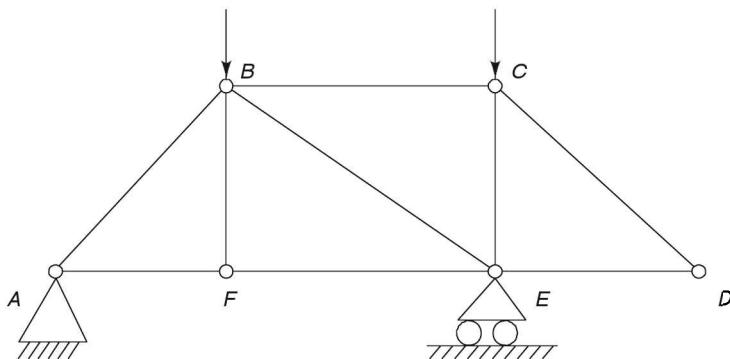

FIGURE 11.4 Members having no force.
1. If two members of a truss meeting at a joint are not collinear and no external force is acting at the joint then forces in both the members are zero. In the truss as shown in Figure 11.4, forces in both members CD and DE will be zero.